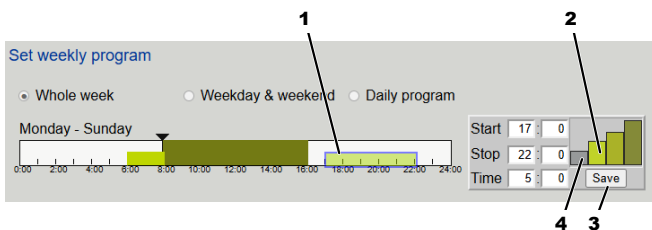

Fig. 26: Setting operating times
3. To create a new timer (time range), click on the white area ( Fig. 26 /1), then select the fan speed (low, medium or high speed) ( Fig. 26 /2). Enter the start and stop times using the keyboard, or move the bar using the mouse. Finish the entry with Save ( Fig. 26 /3).
To change a timer, mark the period with the mouse and change it. After any changes, finish the entry with Save ( Fig. 26 /3).
To delete a timer, mark it with the mouse, then select 'Stop' (grey bar – Fig. 26 /4), this deletes the timer.